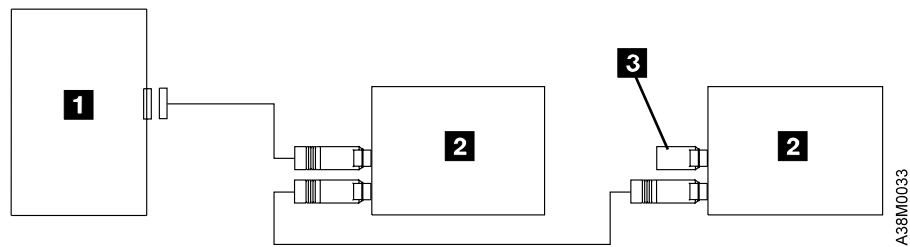

Figure 5. Example of Attaching Multiple SCSI Devices to the System Unit
- If the 7210 DVD-RAM Drive is part of a multiple-device configuration, connect the SCSI cable to the next device (see Figure 5 on page 9).
- If there is more than one device (**2** in Figure 5) attached to the host system **1** , move the terminator **3** to the last device.